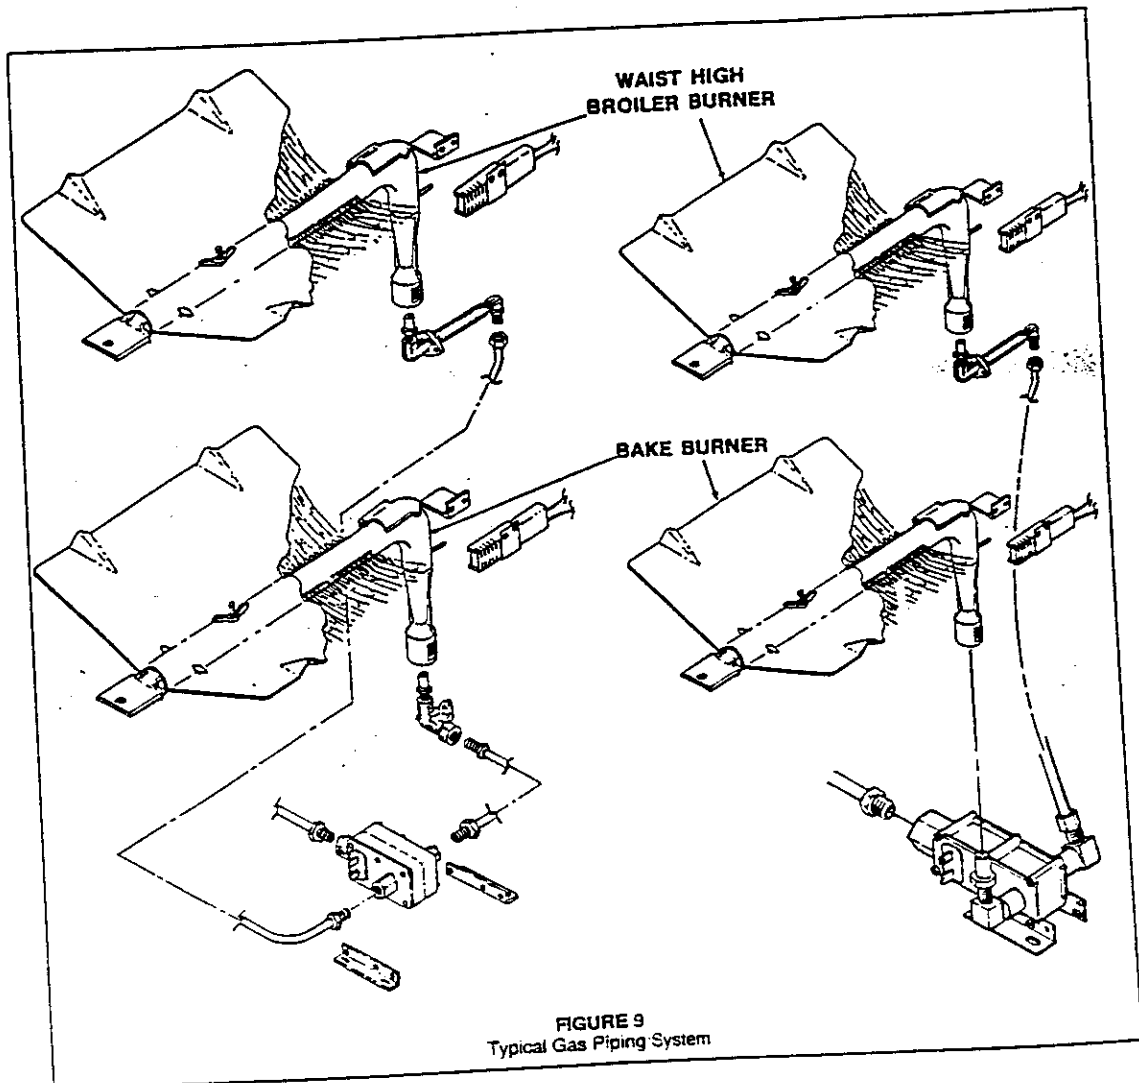

FIGURE 9
- Yellow flame on burner - open air shutter to the widest opening that will not cause the flame to lift or blow off the burner when cold. (See figure 9).
- Distinct blue flame but lifting - close burner air shutter to the point where it will not cause the flame to lift or blow off the burner when cold. (See figure 9).
- c. The air shutter adjustments are the same as illustrated in figure 8. The approximate length of the flame of the broil burner is a distinct inner blue flame of  $\frac{3}{8}$  inch. The outer flame will extend outward as a sheet of flame adjacent to the burner baffle (flame spreader) above the broil burner, figure 9. The air shutter, figure 8 should be set to full open on both natural and on LP gas.